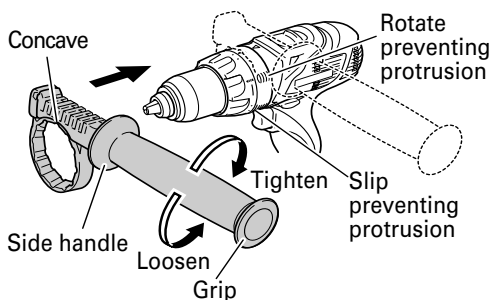

Fig. 6
(1) Install the side handle so that the protrusions on the main unit and grooves on the side handle interlock. Tighten the grip after checking that the side handle is not riding on the slip prevention protrusion. (Fig. 6).
(2) Loosen the grip to remove the side handle.